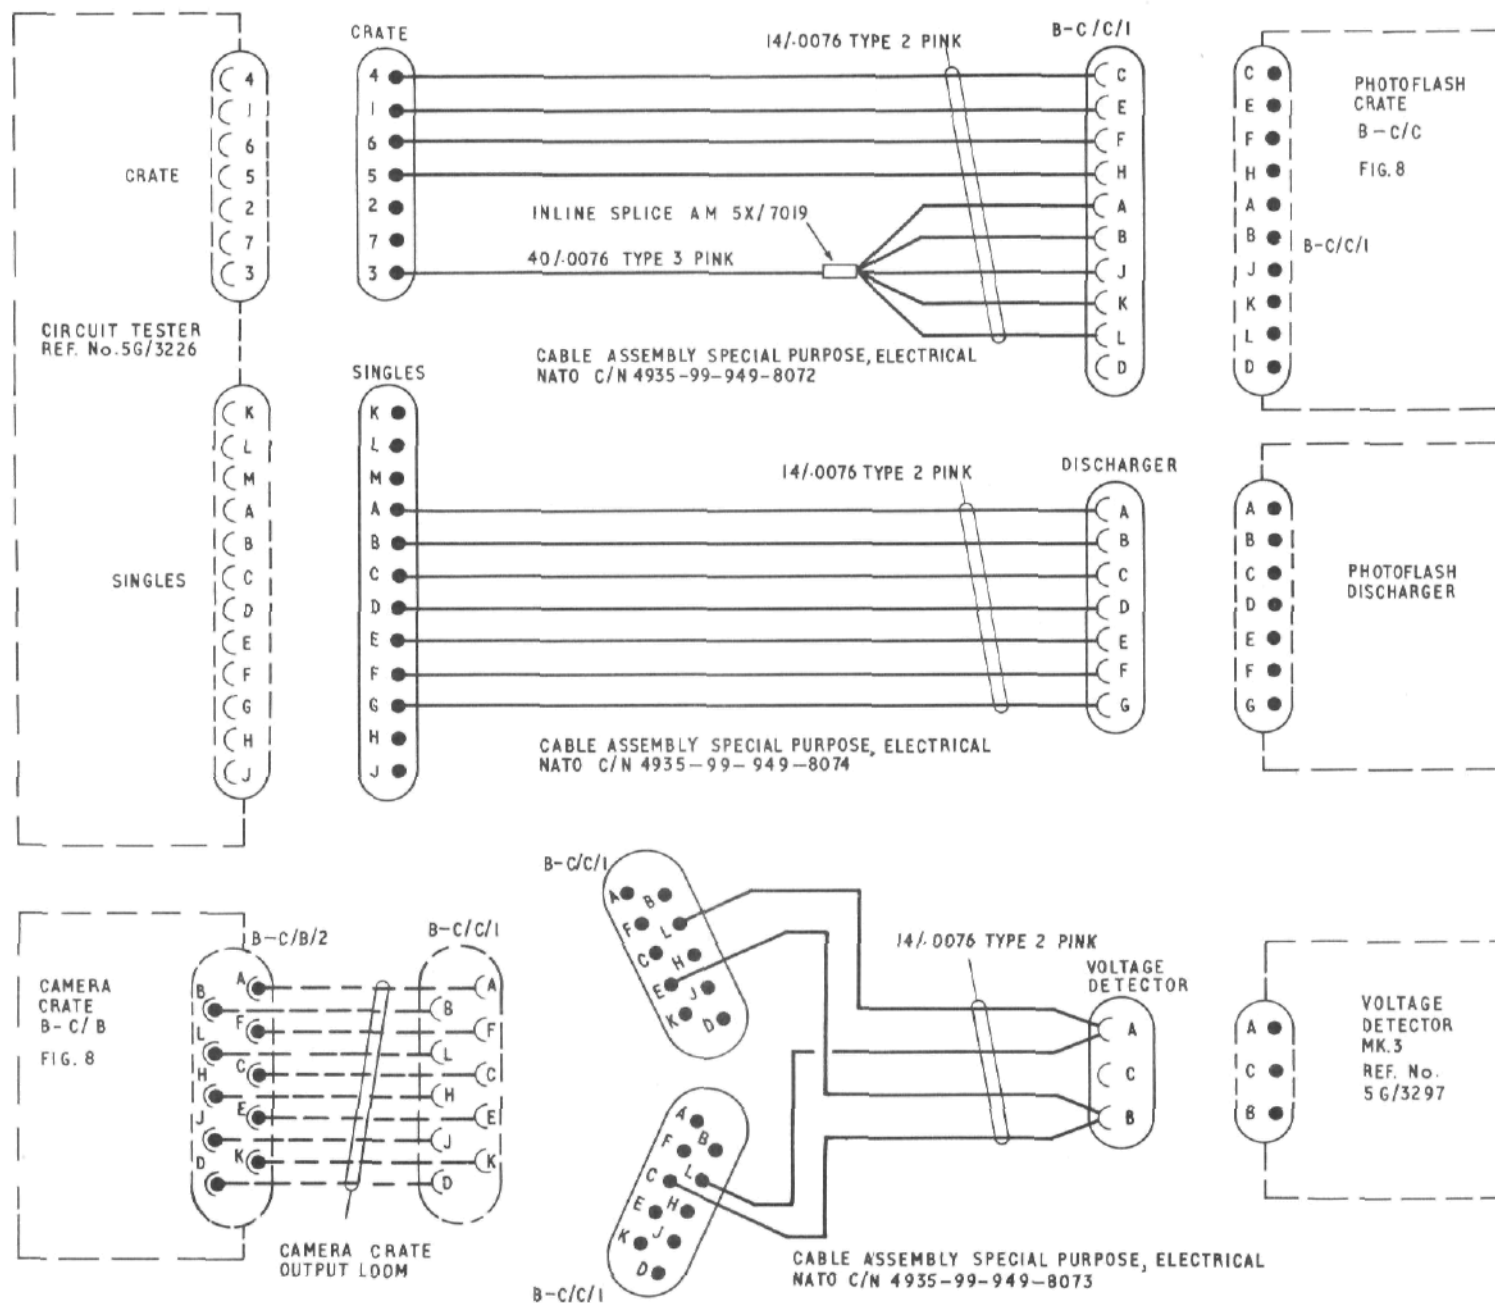

Fig. 12. Details of cable assembly set, electrical
- (1) Circuit tester for 1.75 in. photoflash discharger, Ref No. 5G/3226.
- (2) Voltage detector, Mk. 3, Ref No. 5G/3297.
- (3) Contact plate, Ref No. 5G/3227 (33 off).
- (4) Contact plate tester, Ref No. 5G/3228.
- (5) Connector lead, Ref No. 5G/3438.
- (6) Cable assembly set, electrical, NATO C/N 4935-99-101-9212 (fig 12).
- (7) 28V d.c. ground supply.
- (8) 24 - 28V d.c. supply.
- (9) General services hydraulic servicing trolley.
electrical, NATO C/N 4935-99-949-8072 (fig 12).
143. (1) Connect the discharger, fitted with a contact plate, to the SINGLES socket of the circuit tester using cable assembly special purpose, electrical, NATO C/N 4935-99-949-8074 (fig 12).
- (2) On the circuit tester panel, set the selector switch to SINGLES 1 and the supply switch to ON.
- (3) With the selector switch set to each of the SINGLES positions in turn, depress the push-switch and test the six firing circuits of the discharger.
- (4) Faulty circuits will cause the appropriate LIMIT lamp, indicating either high or low resistance, to be illuminated. The faulty circuit is identified by the number indicated on the selector switch.
Chap. 5. Perform continuity and insulation tests on the cable assembly special purpose, electrical, NATO C/N 4935-99-949 8073 (fig 12).